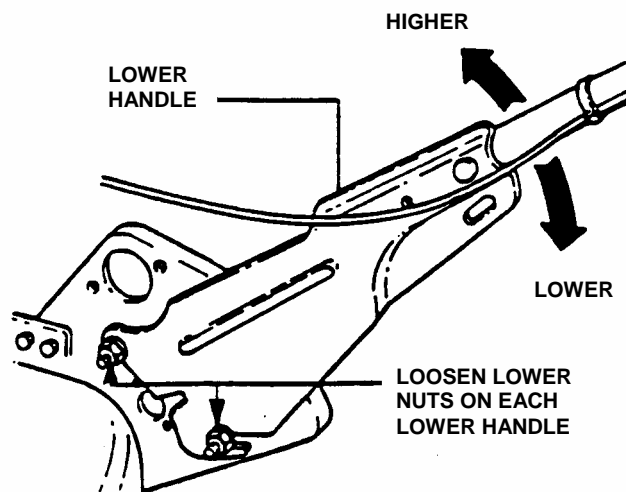

FIGURE 2.6
1. Loosen the lower nuts on each lower handle as shown in Figure 2.6.